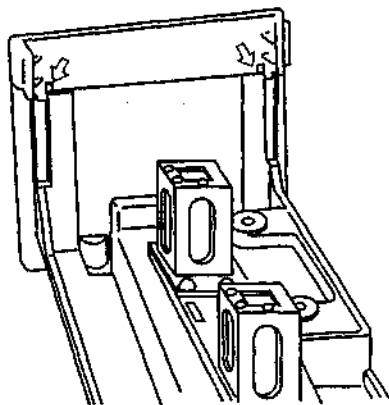

Fig. 5.5.3 Mounting the "Cover, Sample Compartment"
- (1) Turn OFF the UV-1601 unit power switch.
- (2) Remove the optional accessory which has been mounted.
- (3) Loosen the knurled screws (2) beneath the front edge of sample compartment.
- (4) Lift the entire sample compartment up and pull out.
- (5) Match up the protrusions on the sample compartment unit with the protrusions on the "Cover, Sample Compartment" (2 places) shown by the arrows in Figure 5.5.3.